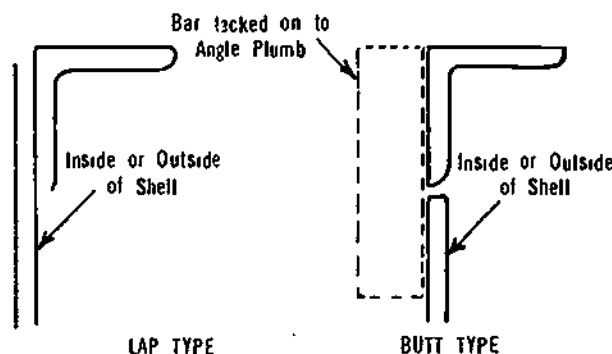

Figure 12-28. Two Methods of Placing Top Angle
**Laying Out Top Angles** Check the drawings to determine the exact position of the angle on the shell. In most cases a variation in the height of the angle occurs if installed above the shell. In addition, angles are sometimes installed by lap-welding and sometimes by butt-welding. They must be installed **exactly as shown**, since the overall height of the shell depends upon how the top angles are placed (Figure 12-28). Top angles may be installed either before or after the structural roof supports are erected.